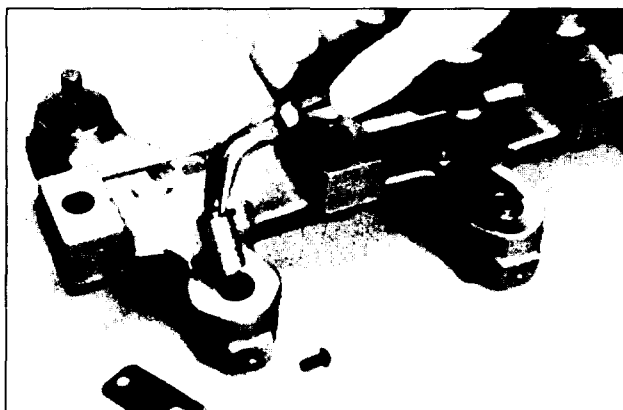

FIG. 66
4. Reassemble in reverse order. When tightening the cap screw, make certain the two spring tabs do not interfere with the sides of the master piston center raised portion (see Fig. 66).